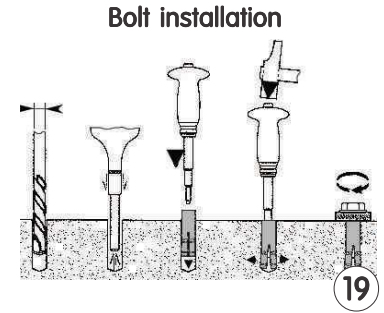

Figure 6
- Plot the position of the two end panels (1), and the position of the attachments as shown in **Fig. 6 and 6a** or **Fig. 7 and 7a**.
- Carefully vacuum clean the holes before inserting the hammer-type bolts (19) provided: insert the collar, then hammer the bottom in order to secure it to the ground, using an appropriate tool (follow the steps shown on the right).